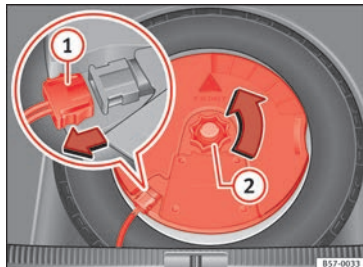

Fig. 235 In the luggage compartment: remove the subwoofer.
- Disconnect the cable for the subwoofer speaker » **Fig. 235 ①**.
- Turn the securing wheel anti-clockwise **②**.